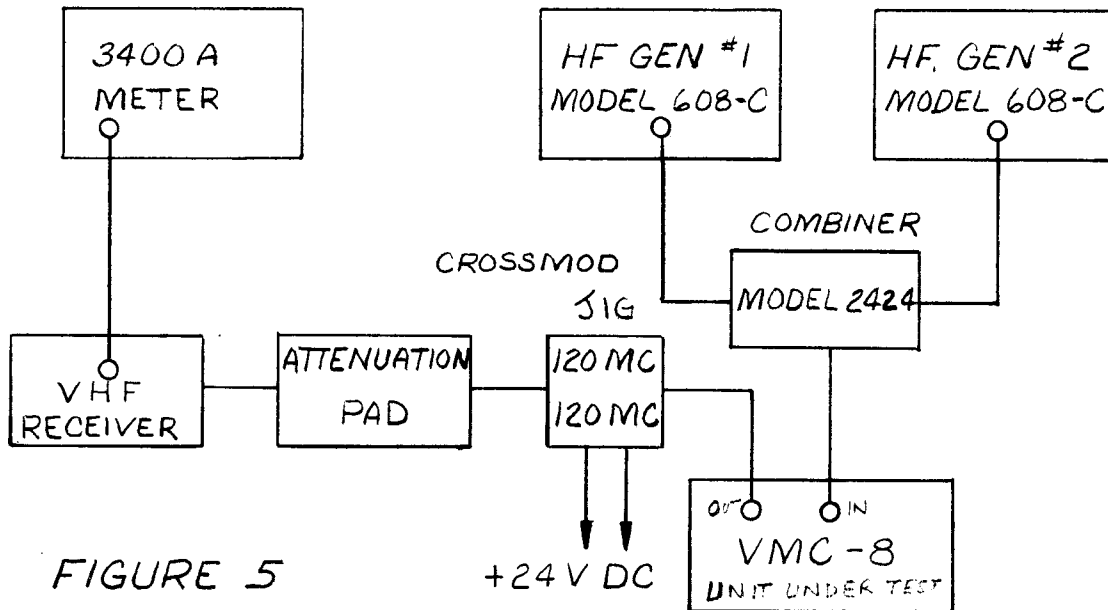

FIGURE 5
1. Connect the test equipment as shown in figure 5.